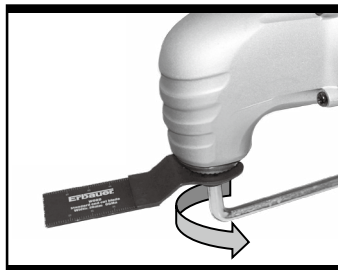

Fig. 3
- Use the hex key to rotate the Flange counterclockwise until accessory is tightened securely. (See Fig. 3)